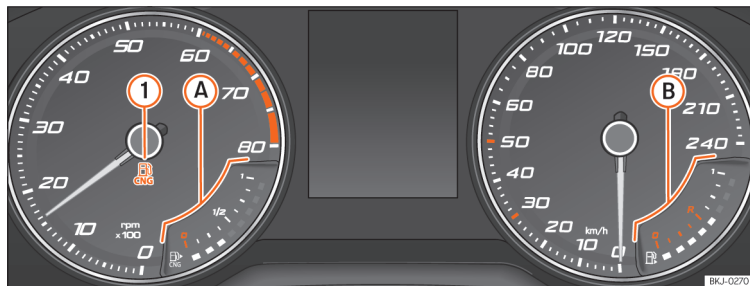

Fig. 68 Analogue instrument panel: natural gas gauge
It lights up green »» Fig. 68 ①